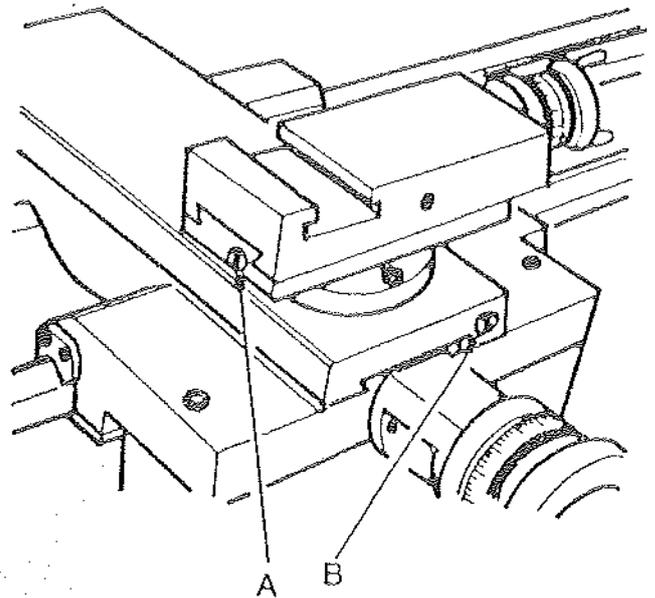

Fig. 21
2. Tighten the front gib screw (B, Fig. 21) a quarter turn. Turn the cross slide handwheel to see if the cross slide is still loose. If it is still loose, tighten the front screw a bit more and try again.
Follow the same procedure as the cross slide adjustment to adjust the compound rest. Rear gib screw (B) is shown in Fig. 21 **Note:** the front handwheel on the compound will have to be removed to access the front gib screw.